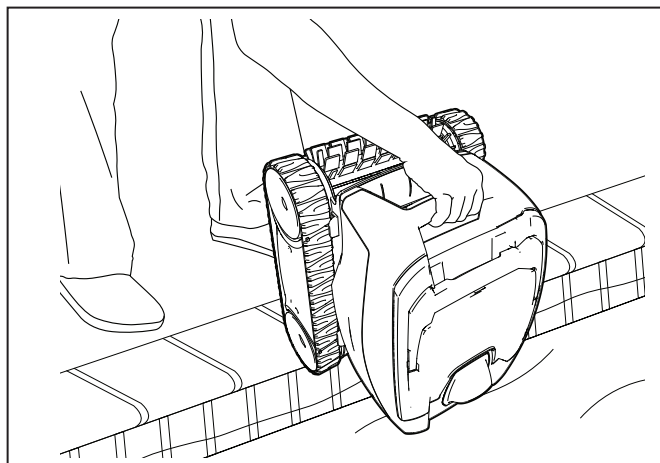

Figure 16. Lift Cleaner From Pool with Handle
1. Gently pull the floating cable to bring the cleaner within arm's reach. When the cleaner is within arm's reach, use the handle to remove from the water (Figure 16). Never lift the cleaner out of the pool by the floating cable.